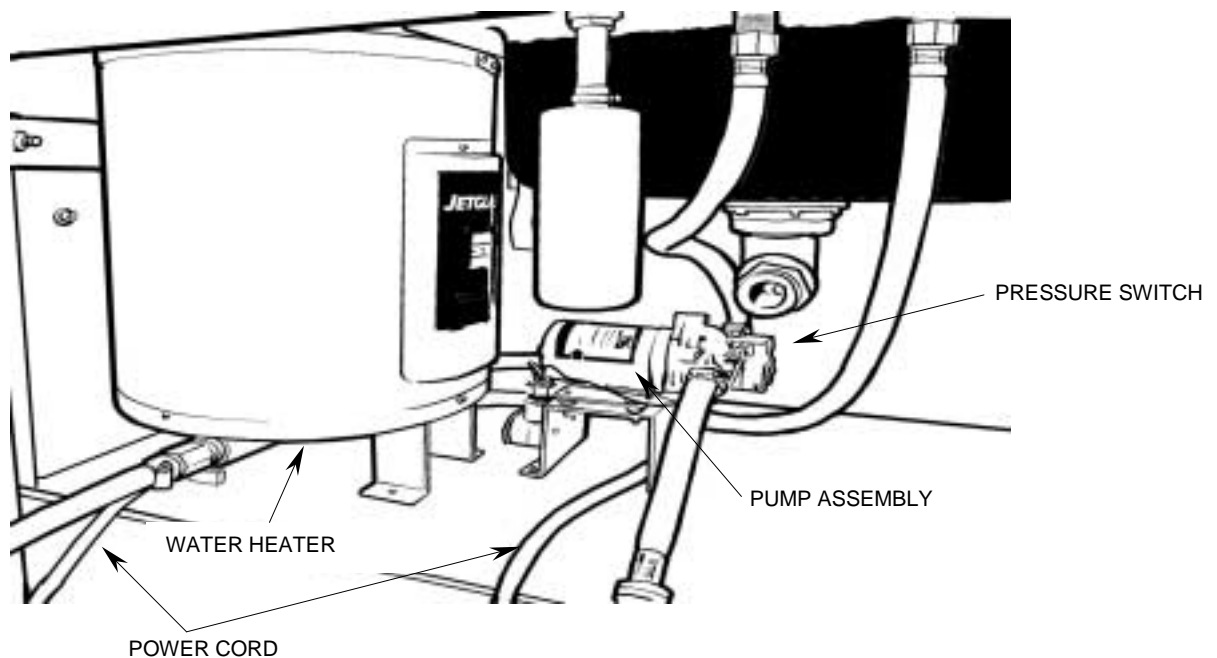

Figure 2. Sink Assembly Maintenance.
**Water Heater:** See Figure 2. To replace the water heater, disconnect the power cord at the bottom of the tank. Allow the water in the tank to cool, open the drain valve and drain the water into an empty bucket or drain system. Remove the locking nuts from the mounting bracket at the side of the sink assembly. Remove the supporting bracket under the water heater and lift the water heater out of the sink assembly.
**Pump Assembly:** See Figure 2. To replace the pump assembly, label the wires and disconnect the power cord at the junction box on the pump assembly mounting bracket. Remove the four screws from the pump assembly mounting plate. Retain the rubber mounting spacers.